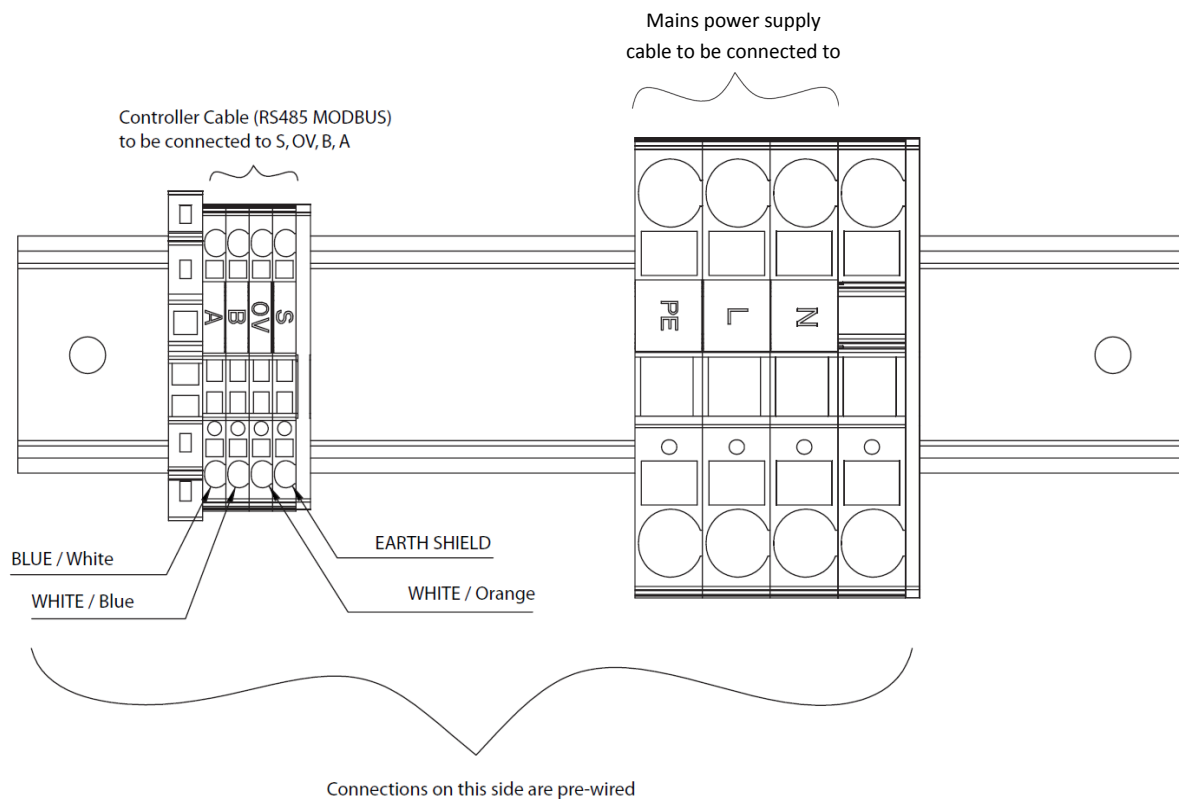

Figure 8: Heat pump electrical connections
NOTE: 'S' AS SHOWN IN FIGURE 8 ABOVE IS THE EARTH SHIELD AND MUST BE CONNECTED DURING INSTALLATION.
- Connect power cable and controller cable as shown in figure 8. Do not strip the cables before pulling them through the glands in the access panel. Where stranded cable is being used, a ferrule must be fitted before inserting into the push connections.